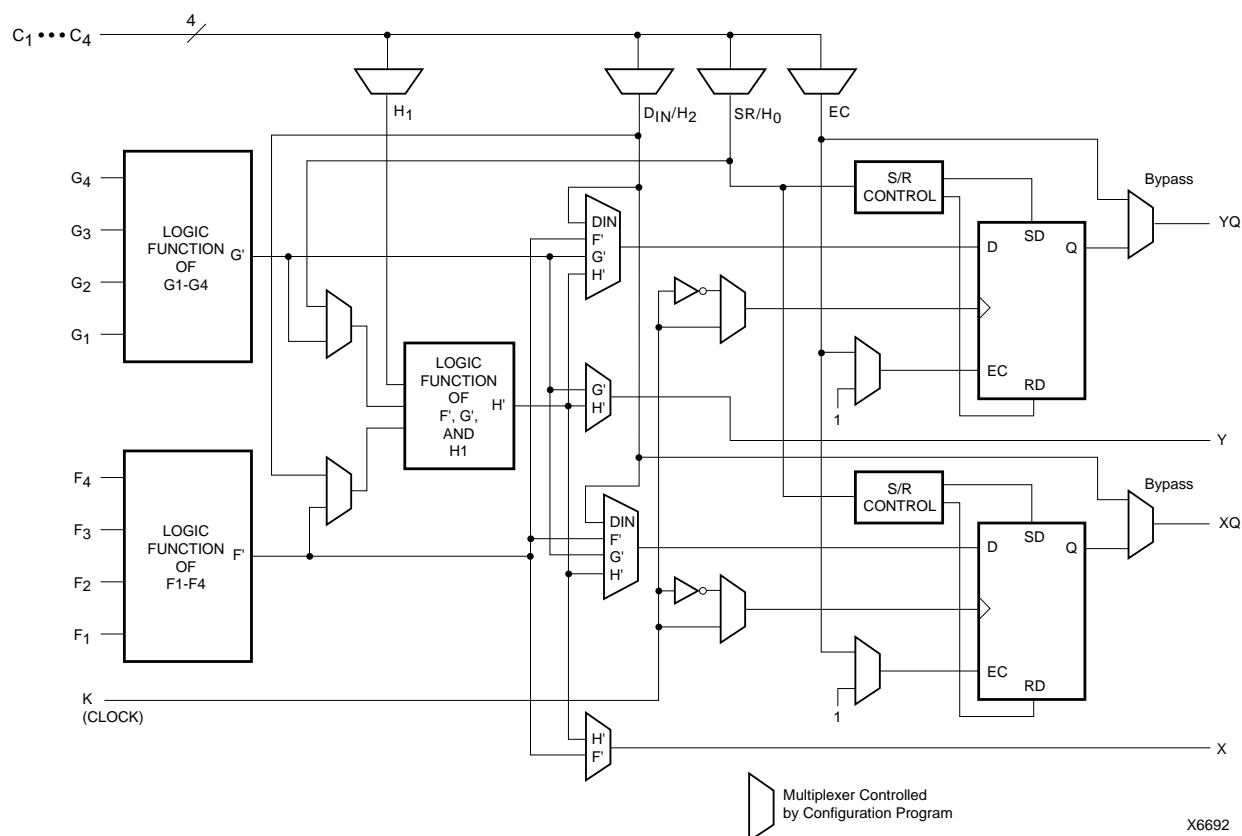

Figure 1: Simplified Block Diagram of XC4000 Series CLB (RAM and Carry Logic functions not shown)
Configurable Logic Blocks implement most of the logic in an FPGA. The principal CLB elements are shown in **Figure 1**. Two 4-input function generators (F and G) offer unrestricted versatility. Most combinatorial logic functions need four or fewer inputs. However, a third function generator (H) is provided. The H function generator has three inputs. Either zero, one, or two of these inputs can be the outputs of F and G; the other input(s) are from outside the CLB. The CLB can, therefore, implement certain functions of up to nine variables, like parity check or expandable-identity comparison of two sets of four inputs.
A separate Global Set/Reset line (not shown in Figure 1) sets or clears each storage element during power-up, re-configuration, or when a dedicated Reset net is driven active. This global net (GSR) does not compete with other routing resources; it uses a dedicated distribution network.
Two fast feed-through paths are available, as shown in Figure 1. A two-to-one multiplexer on each of the XQ and YQ outputs selects between a storage element output and any of the control inputs. This bypass is sometimes used by the automated router to repower internal signals.
Multiplexers in the CLB map the four control inputs (C1 - C4 in Figure 1) into the four internal control signals (H1, DIN/H2, SR/H0, and EC). Any of these inputs can drive any of the four internal control signals.